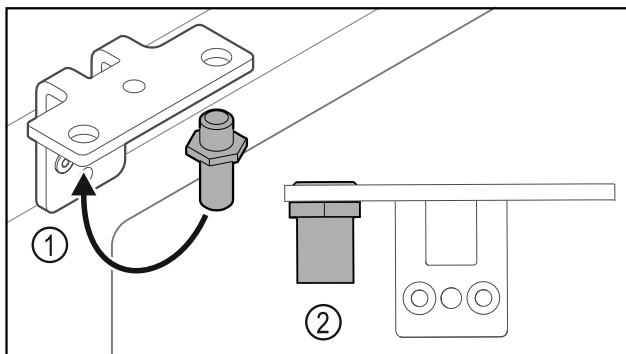

Fig. 21
- ▶ Put the pin back into the hinge Fig. 21 (1).
- ▶ Tighten the pin Fig. 21 (2) to a **torque of 12 Nm**.